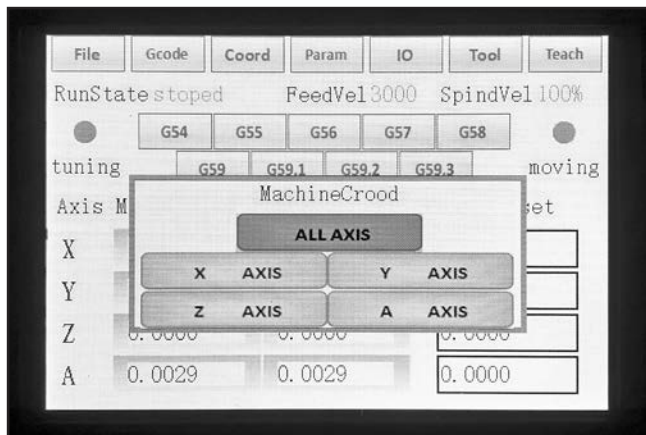

Figure 25. DSP controller home screen.
6. Press "Home" button on DSP controller. A dialog box will open with five soft keys: one for all of the axes, and one for each individual axis (see **Figure 25**).